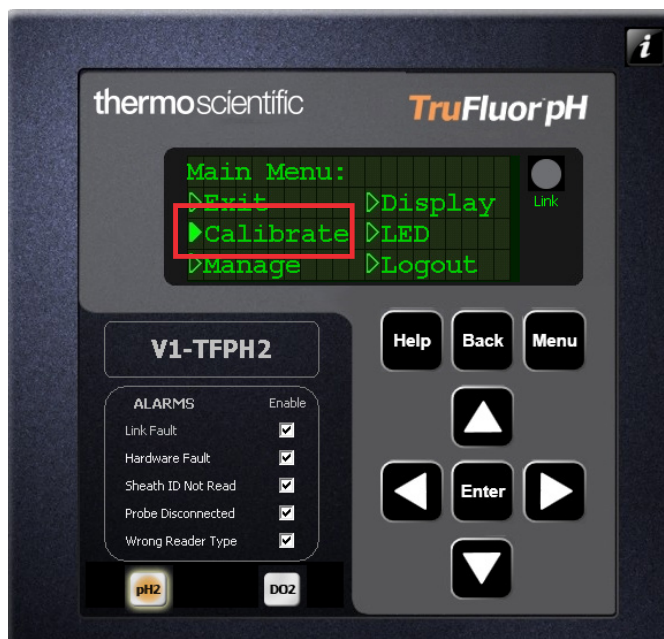

Figure C.3. Selecting "Calibrate" from Main menu.
2. Navigate to **Calibrate** (Figure C.3), and click **Enter**.